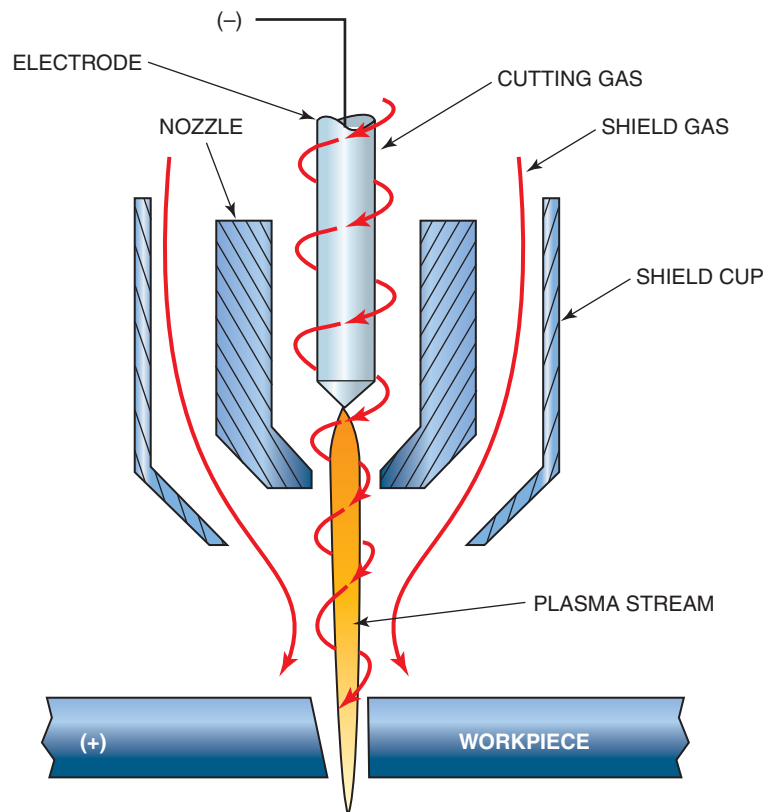

Figure 7.22 Swirling of the plasma gas
- swirling of the plasma gas—On some torches, the gas is directed in a circular motion around the electrode before it enters the nozzle tip orifice. This swirling causes the plasma stream that is produced to be more dense with straighter sides. The result is an improved cut quality, including a narrow kerf, Figure 7.22.